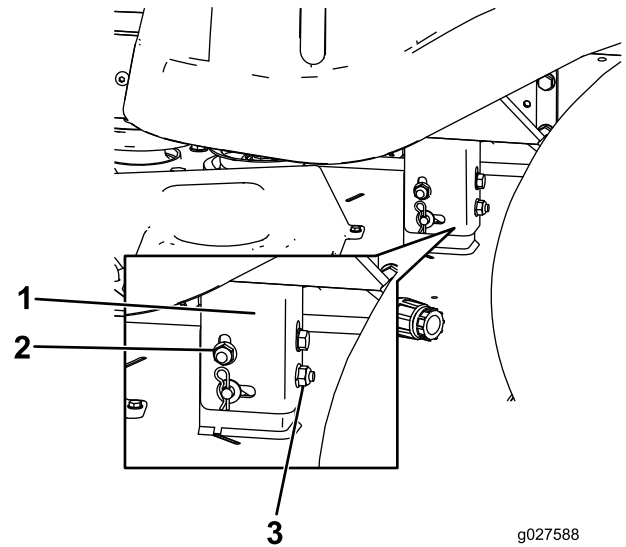

Figure 60
8. Raise or lower the left side of the mower deck by rotating the rear locking nut (Figure 60).
Note: Rotate the rear locking nut clockwise to raise the mower deck; rotate the rear locking nut counter-clockwise to lower the mower deck (Figure 60).